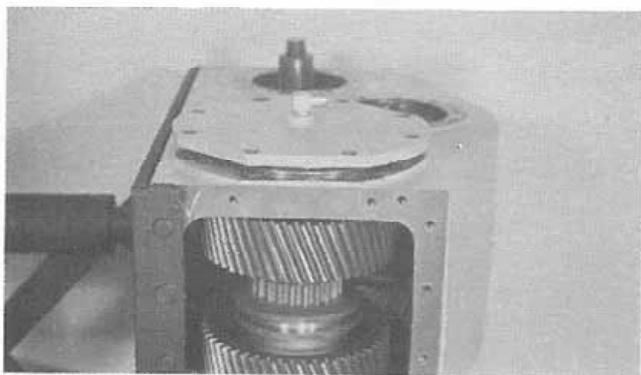

Figure 19:
12. Carefully align the input shaft rear cover and oil tube with the input shaft bore and housing bore as the cover is installed (Fig. 19). Do not bend the tube.